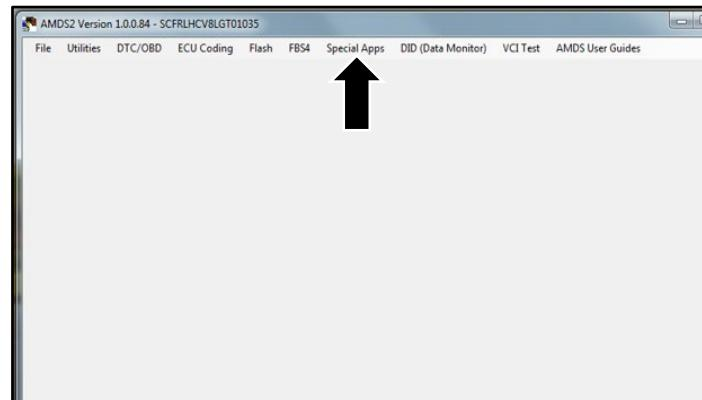

Figure 3
9. In AMDS 2.0 click the "Special Apps" button (refer to Figure 3).